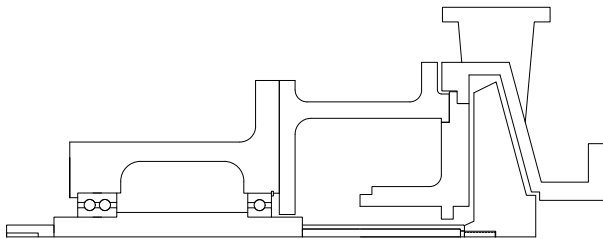
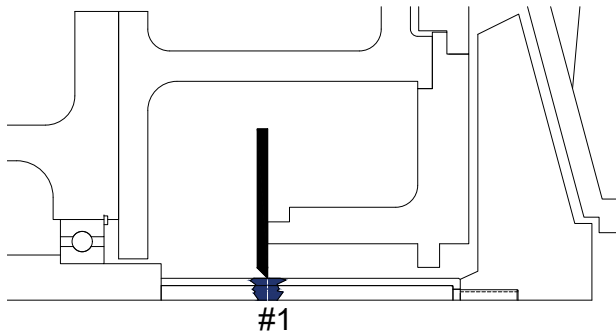

Figure 8: Fully assembled pump without seal
Figure 9: Layout dye application and scribing
1. Reassemble the pump, including the shaft sleeve, seal chamber cover, and impeller as shown in Figure 8. After adjusting impeller, apply layout dye to the shaft (or shaft sleeve) at the face of the seal chamber, and scribe a line in the dye showing the location of the chamber face as shown in Figure 9.